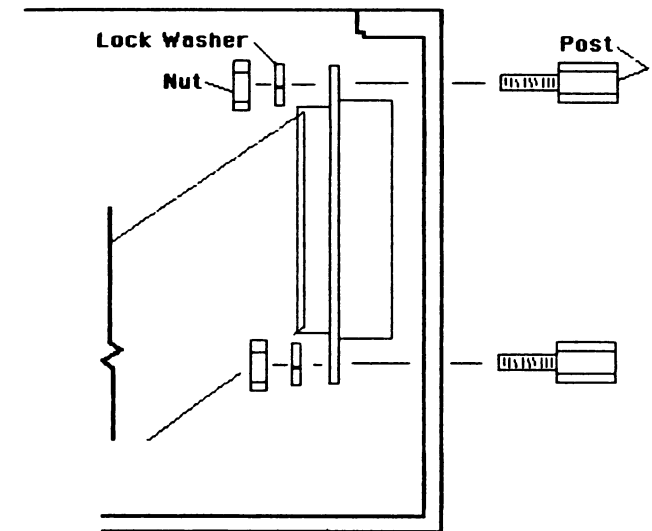

Figure 3-3: *The SCSI Port Hardware Kit*
- 6) Use the *SCSI Port Hardware Kit* (see figure 3-3) to attach the SCSI port connector to the nearest large back panel opening.